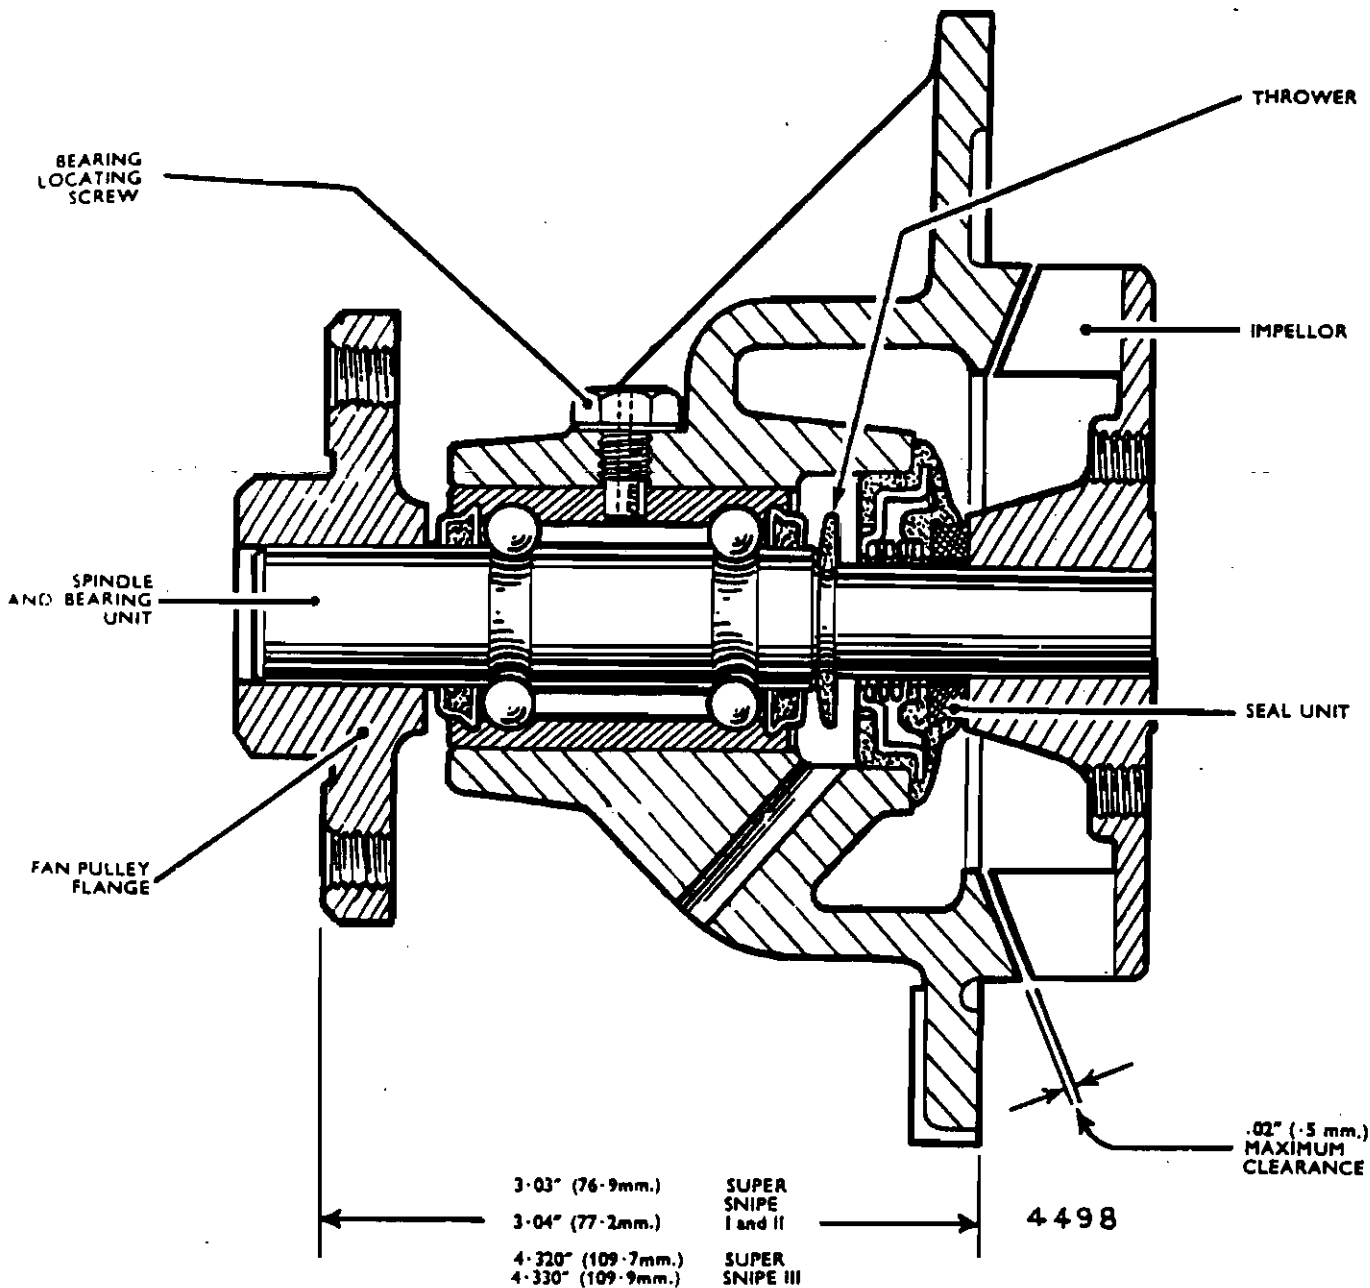
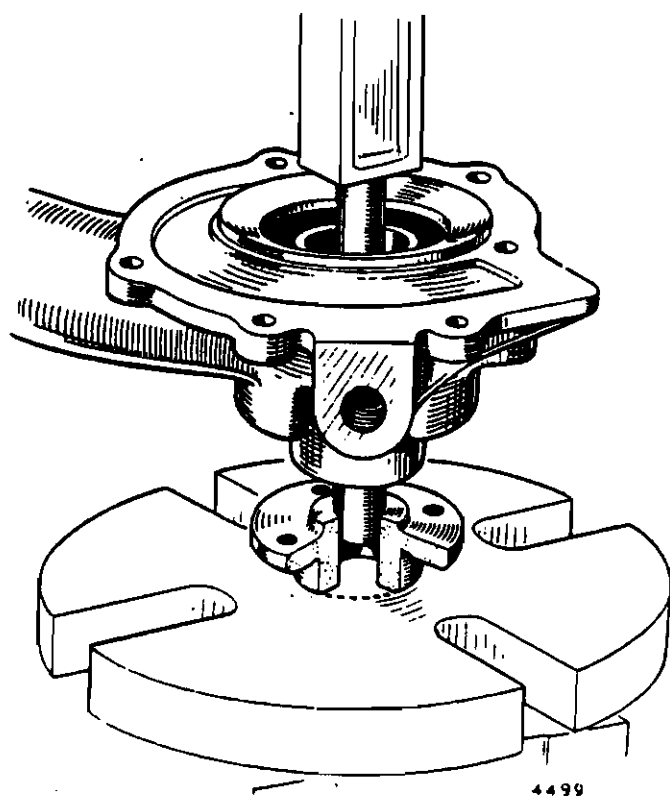
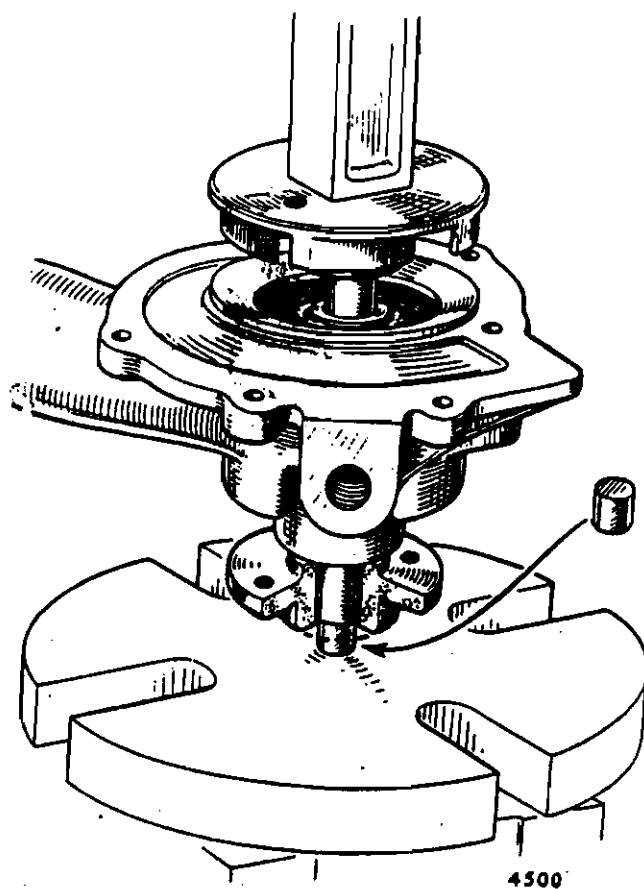

Fig. 3. Sectional view of water pump
Fig. 4. Pressing pump spindle into fan pulley centre
Fig. 5. Pressing pump impellor on to pump spindle
A sectional view of the water pump is shown in Fig. 3. The impellor and fan pulley centre are a press fit on the pump spindle which forms part of a specially constructed shaft and bearing unit.
1. Remove bearing locating screw. See Fig. 3.
Place the fan pulley centre on a press table and press the larger diameter of the spindle into the pulley centre, as illustrated in Fig. 4, until the front face of the pulley is positioned as shown by the dimension in Fig. 3. This position ensures the correct alignment of the fan pulley to the crankshaft pulley.
Place the water seal on the smaller diameter of the spindle with the carbon face towards the back face of the water pump, and push the seal firmly into the housing. See Fig. 3.
Support the pump spindle end inside the fan pulley centre as shown in Fig. 5 and press the impellor on to the shaft until the impellor is in the position shown in Fig. 3. It should be noted that .02" (.35mm) is the maximum clearance.